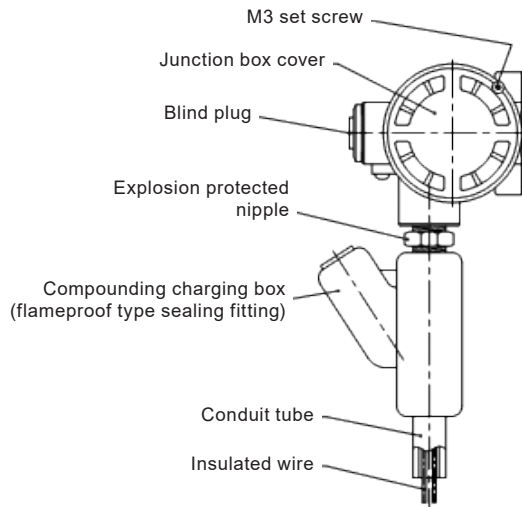
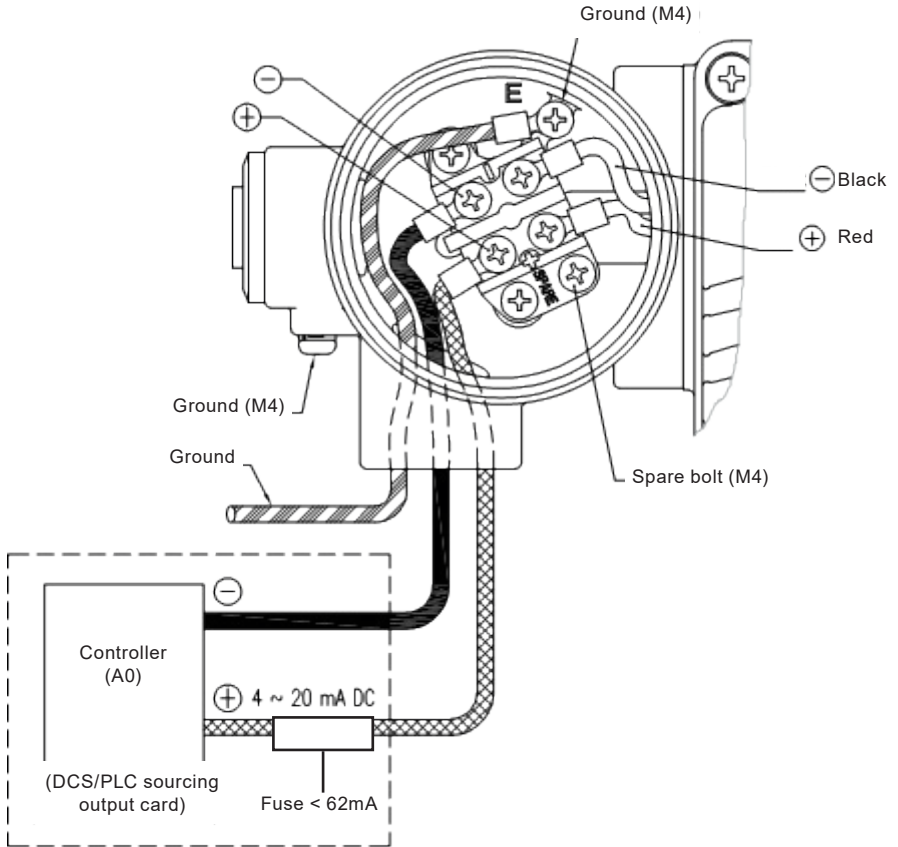

Fig. 16
Fig. 17 Connecting cables
Connect conductors (0.5 to 2.5 mm²) to the terminal blocks and earth noting the polarity +/- see Fig 17.
For explosion proof protection system, a fuse of no greater than 62 mA should be inserted in the circuit to provide protection against overcurrent as shown in Figure 17.
- Locate the M6 Thread screw (Figure 16) and remove the screw from the M6 Tap (Figure 17). The span lever will no longer be attached. Take care to limit the deflection of the Span Spring (Figure 3, Item 15) when the span lever is decoupled from the M6 Tap.
- Ensure the roller (Figure 16) is located on the right side of the span lever (Figure 17) when viewing the positioner from the front.